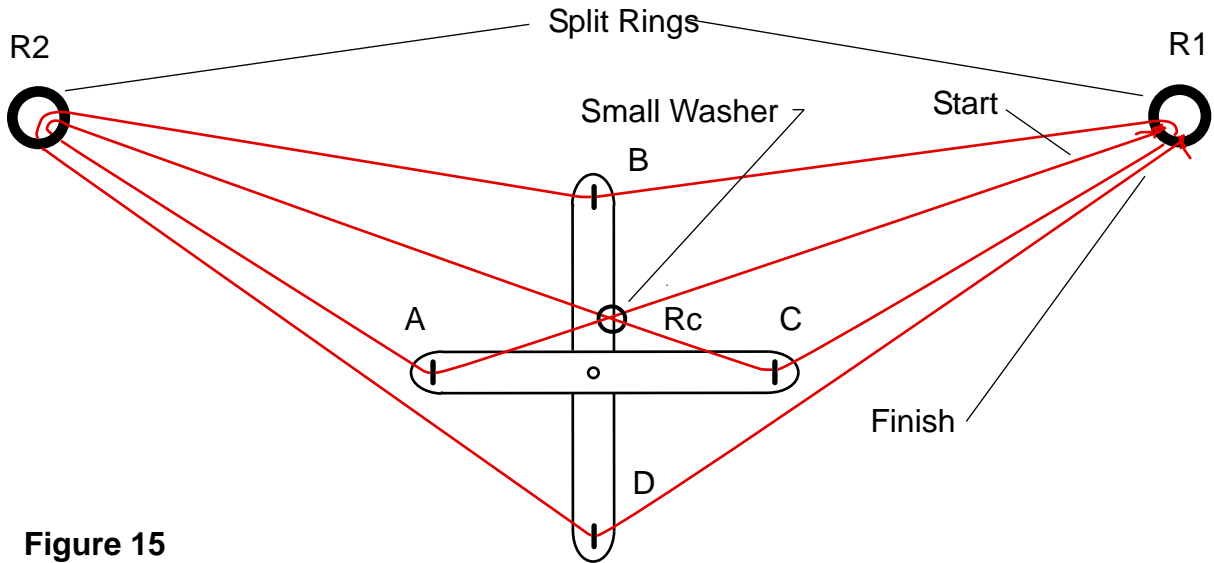

Figure 15
43. Tie one end of the kite line to one of the rings. Then follow the path indicated in **Figure 15** above. The opposite end of the kite line should end up tied to the same ring that the beginning of the line is tied.
44. Here is a step by step description of the path to thread the kite line using the labels in **Figure 15**.